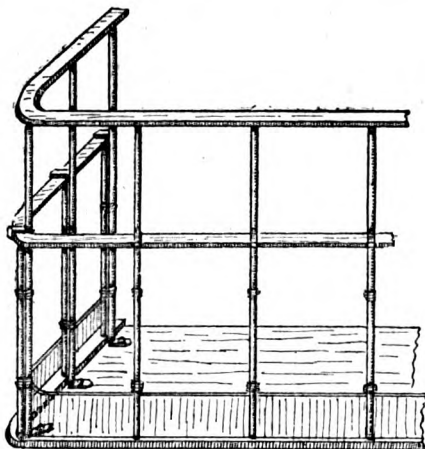
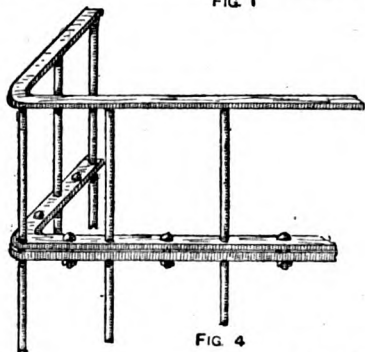
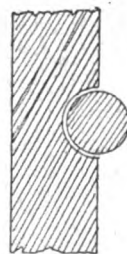

FIG. 1
FIG. 4
FIG. 3
louvre boards be out of reach, an iron rod could be fixed to the fillet, or the boards could be opened and closed by means of two cords, one cord being fixed to the bottom of the fillet, and the other cord to the top. The cords are worked over a pulley, as indicated at Fig. 4.
**Increasing Height of Nursery Fender.**—There are several excellent methods of increasing the height of a nursery fender, two of the best plans being here described and illustrated. Fig. 1 shows the end of the fender with the addition made by fixing behind the present rods round iron rods, and riveting these to the top rail, which may be either of flat iron or half-round brass. The bottom ends of each rod should be flattened out, and turned at right angles, and then screwed or riveted to the bottom plate of the fender, as shown in Fig. 2. These rods should be fastened to the main rods of the fender with wire, as shown, and also with a clip which fits over the upper rail of the existing fender, and which is fastened to the new rods with screw and nut. The upper rail of the present fender should be filed out, as shown in Fig. 3, to let in the new rods. Fig. 4 illustrates another method, a second rail of flat iron, with the round rods of the required additional height riveted into it, being fastened on to the present top rail of the